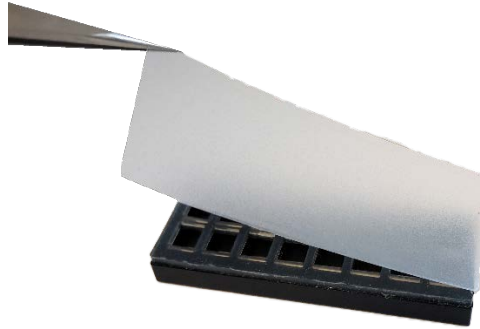

Figure 1
1. Remove release liner to expose the silicone gasket as shown in Figure 1.